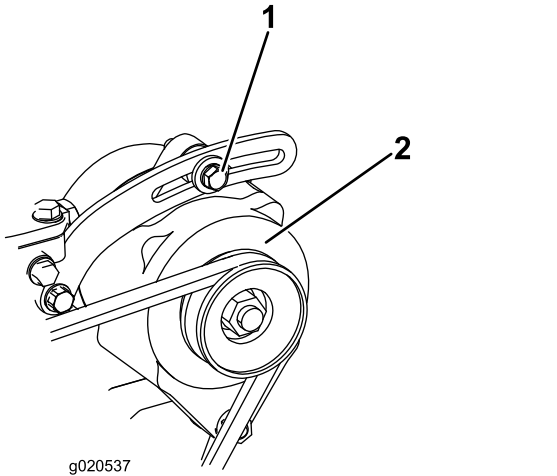

Figure 85
Check the condition and tension of the belt (Figure 85) after every 100 operating hours.
2. If the deflection is not 10 mm (3/8 inch), loosen the alternator mounting bolts (Figure 85). Increase or decrease the tension of the alternator belt and tighten the bolts. Check the deflection of the belt again to ensure that the tension is correct.